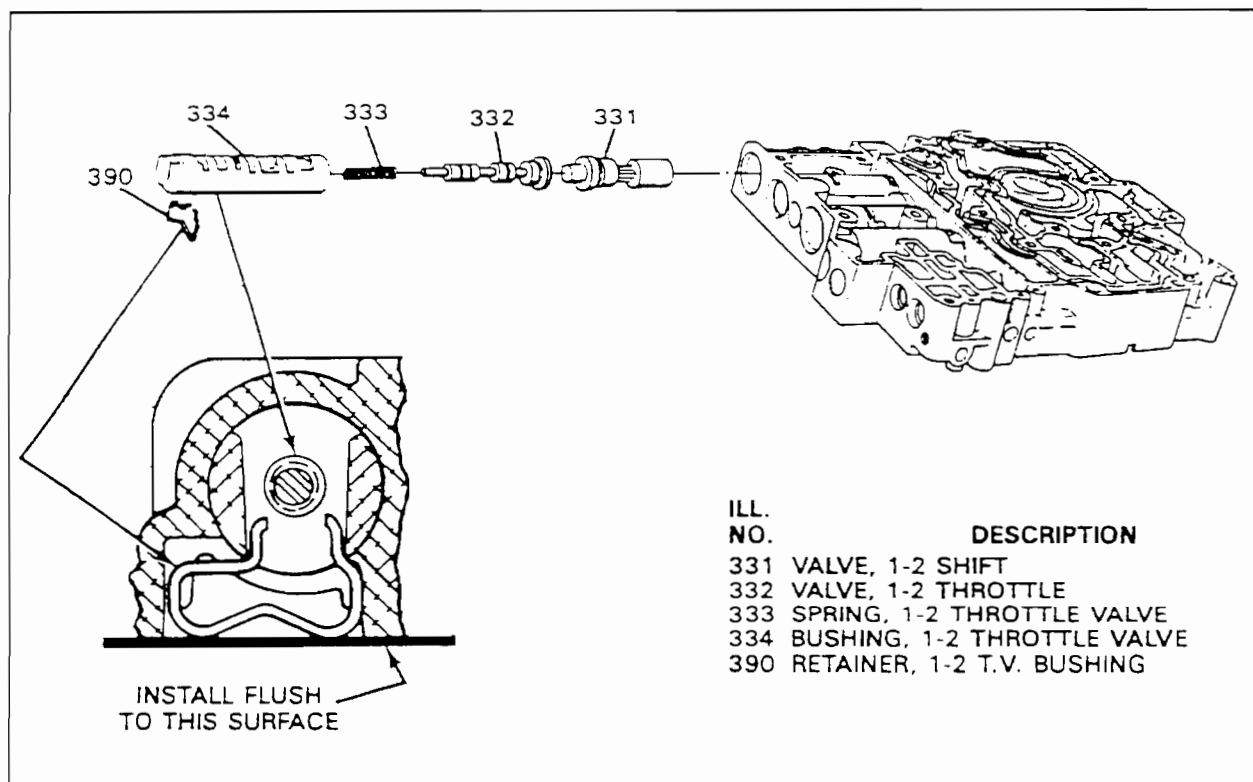

Figure 2
If governor pressure is okay, the 1-2 shift valve (331) may be stuck in the upshifted position. Remove the control valve assembly and check for a sticking 1-2 shift valve (331), 1-2 throttle valve (332), or the 1-2 throttle valve spring (333) caused by the 1-2 throttle valve bushing retainer (390) pushed in too far. The retainer should be installed flush with the machined surface of the valve body. (Figure 2)